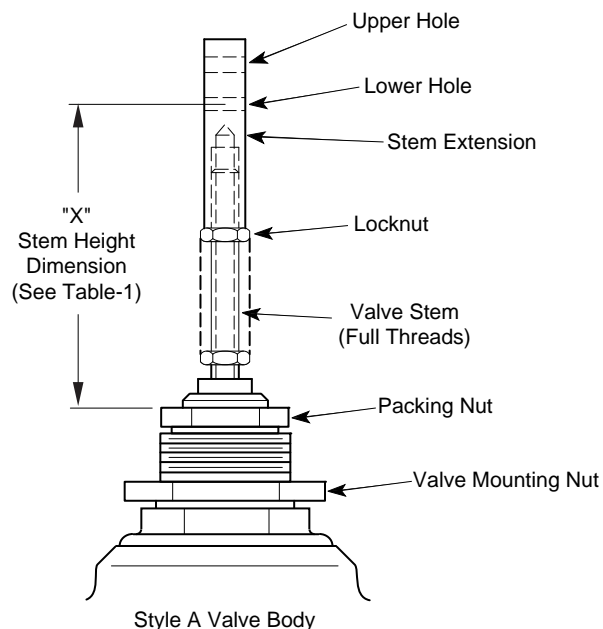
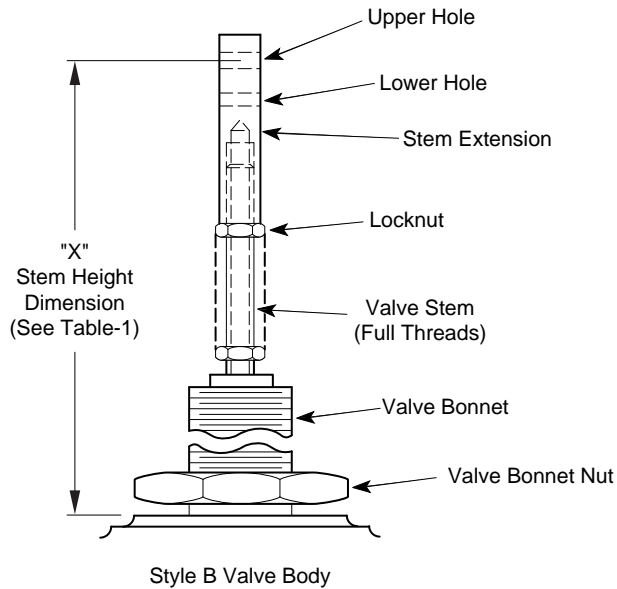
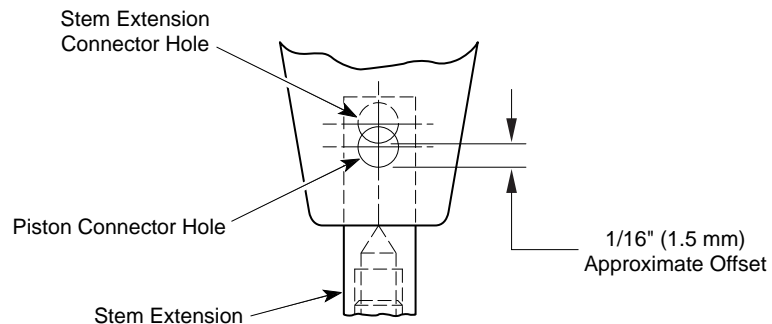

Figure-1 Adjust Stem Extension for Style A Valve Bodies.
Figure-2 Adjust Stem Extension for Style B Valve Bodies.
Figure-3 Piston/Extension Hole Alignment for Normally Open 2-Way Valves with 20 psig
Refer to Figure-1, Figure-2, Figure-3, Figure-4, Figure-5.
3. See Figure-1 and Figure-2 to identify the valve as a Style A or Style B valve body, then proceed as follows:
6. See Figure-1 and Figure-2 to identify the valve as a Style A or Style B valve body, then proceed as follows:
8. Pressurize the actuator to 20 psig (138 kPa) and check the relative positions of the connector holes in the actuator piston and stem extension. The actuator piston connector hole should be $1/16"$ to $1/8"$ (1.5 to 3 mm) below the stem extension connector hole, to assure proper close-off (see Figure-3). If the connector hole offset is not met, adjust the position of the stem extension as follows:
3. For Style A valve bodies only, loosen the valve mounting nut (see Figure-1).
4. For Style B valve bodies only, loosen the valve bonnet nut (see Figure-2).